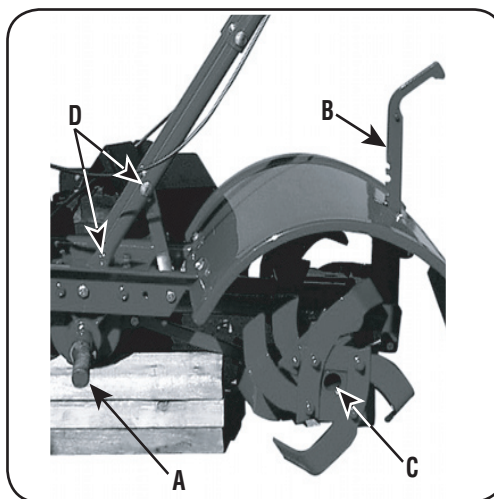

Figure 5-1
After every 10 operating hours, oil or grease the lubrication points shown in Figure 5-1 and described below.
- Remove the wheels, clean the wheel shaft (A, Fig. 5-1) and apply a thin coating of grease to the wheel shaft.
- Grease the back, front and sides of the depth regulator lever (B, Fig. 5-1).
- Remove the tines and clean the tine shaft (C, Fig. 5-1). Use a file or sandpaper to gently remove any rust, burrs or rough spots (especially around holes in shaft). Apply grease to ends of shaft before installing tines.
- Oil the threads on the handlebar height adjustment screws and the handlebar attaching screws (D, Fig. 5-1).